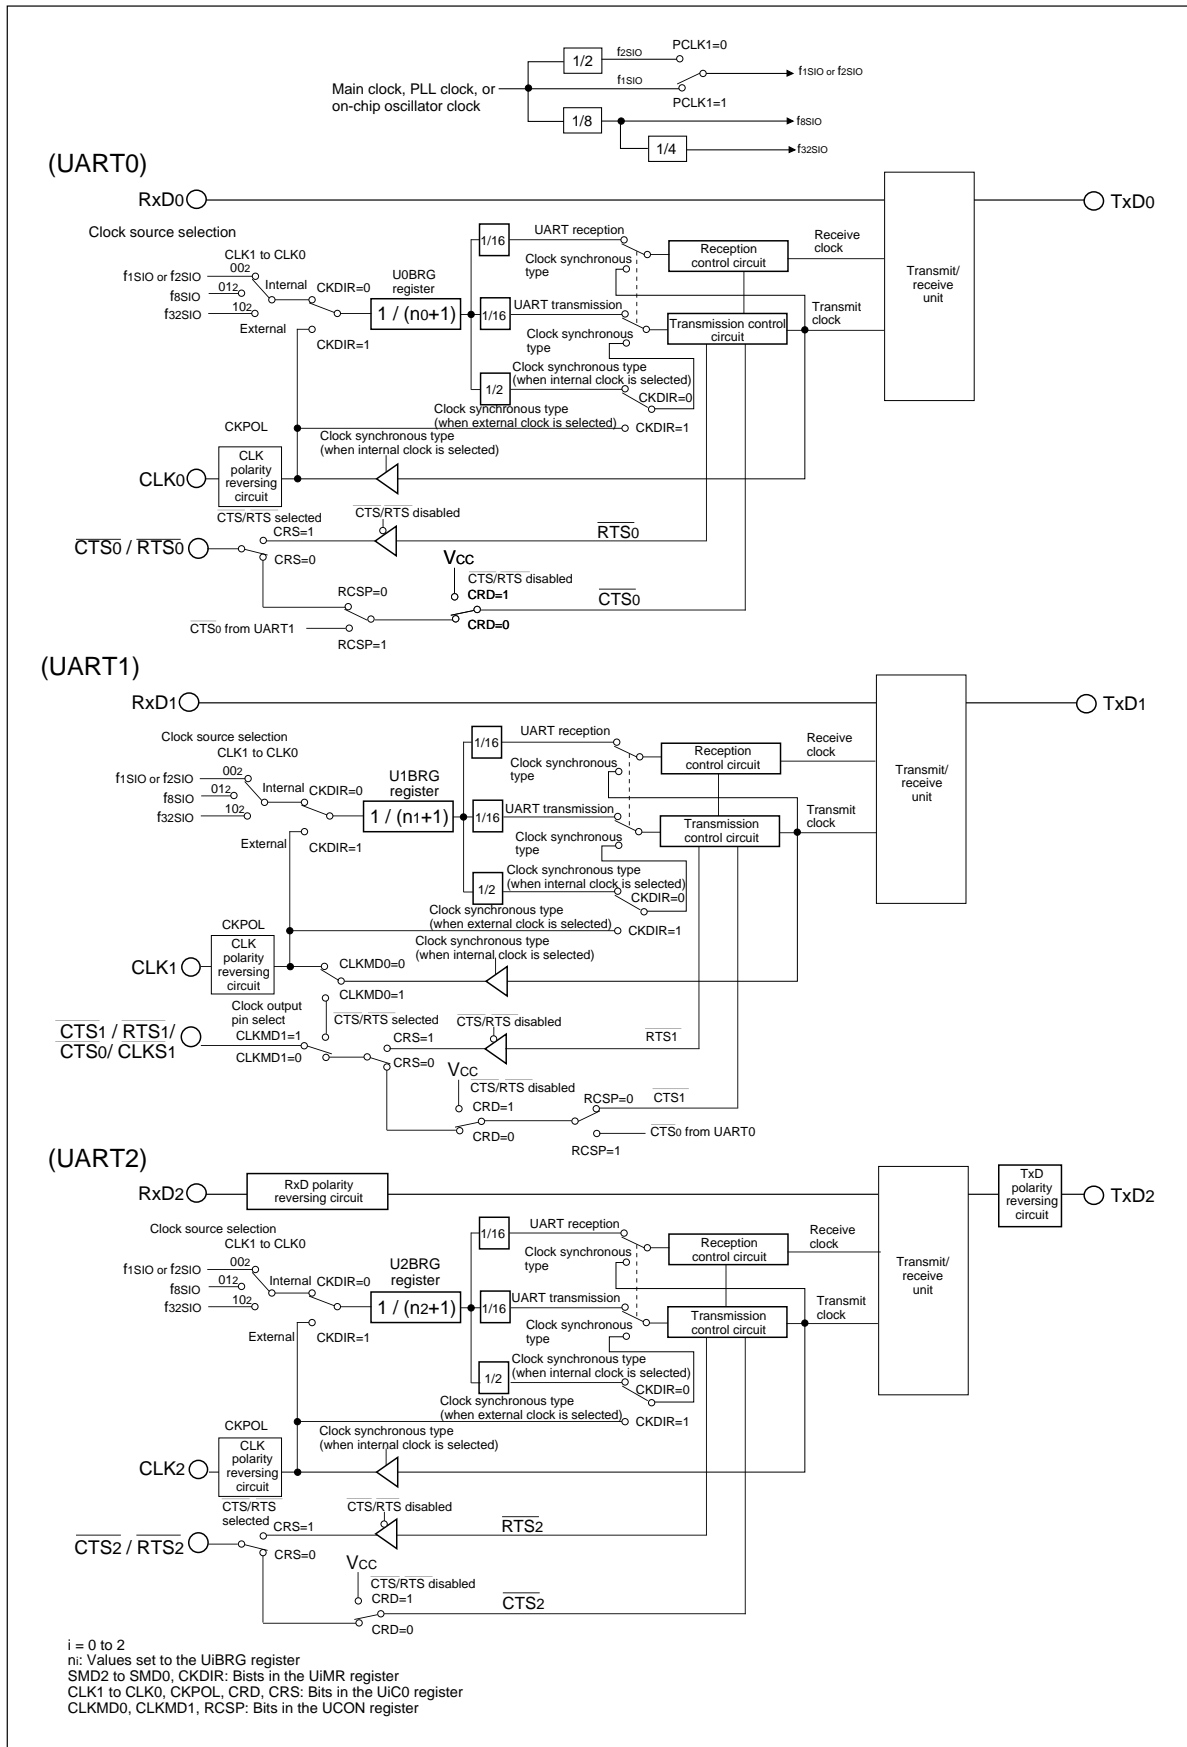
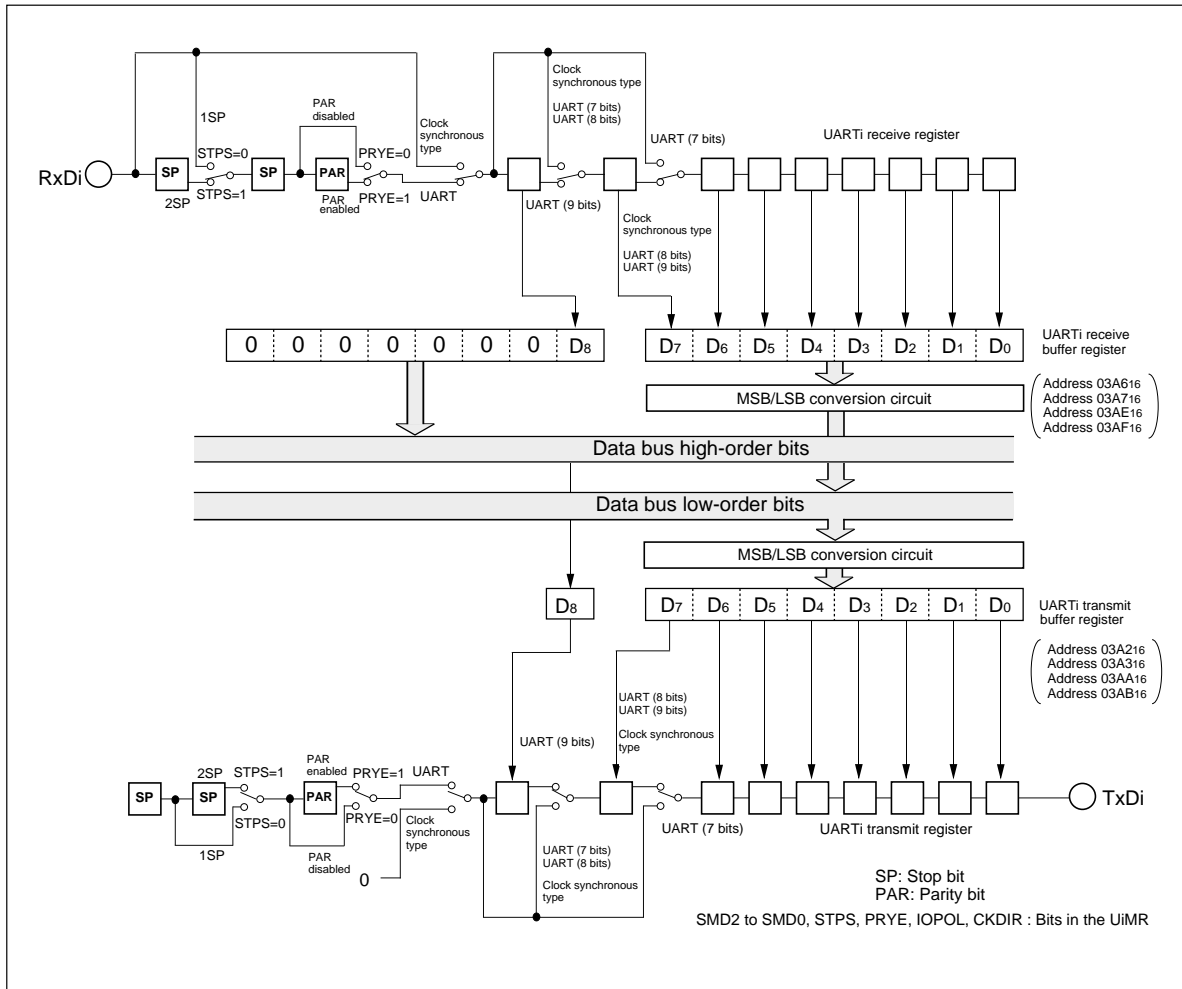

Figure 14.1 Block Diagram of UARTi (i = 0 to 2)
Figure 14.2 Block Diagram of UARTi (i = 0, 1) transmit/receive unit
**Figure 14.1** shows the block diagram of UARTi. **Figures 14.2** and **14.3** shows the block diagram of the UARTi transmit/receive.